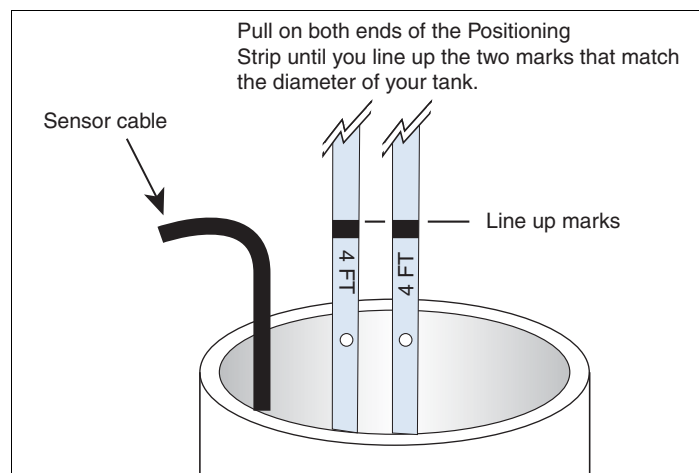

Figure 5.
3. Continue to pull the cord while feeding the sensor/strip assembly into the annulus. Depending on what diameter tank you have, pull the strip until the markers for that tank size are visible above the top of the riser. Pull both ends of the strip until the two markers line up (see Figure 5).